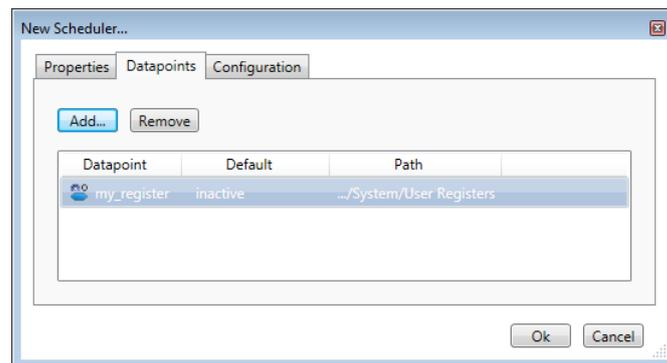

Figure 118: New Scheduler, Datapoints Tab
3. Select the tab **Datapoints** (see Figure 118).